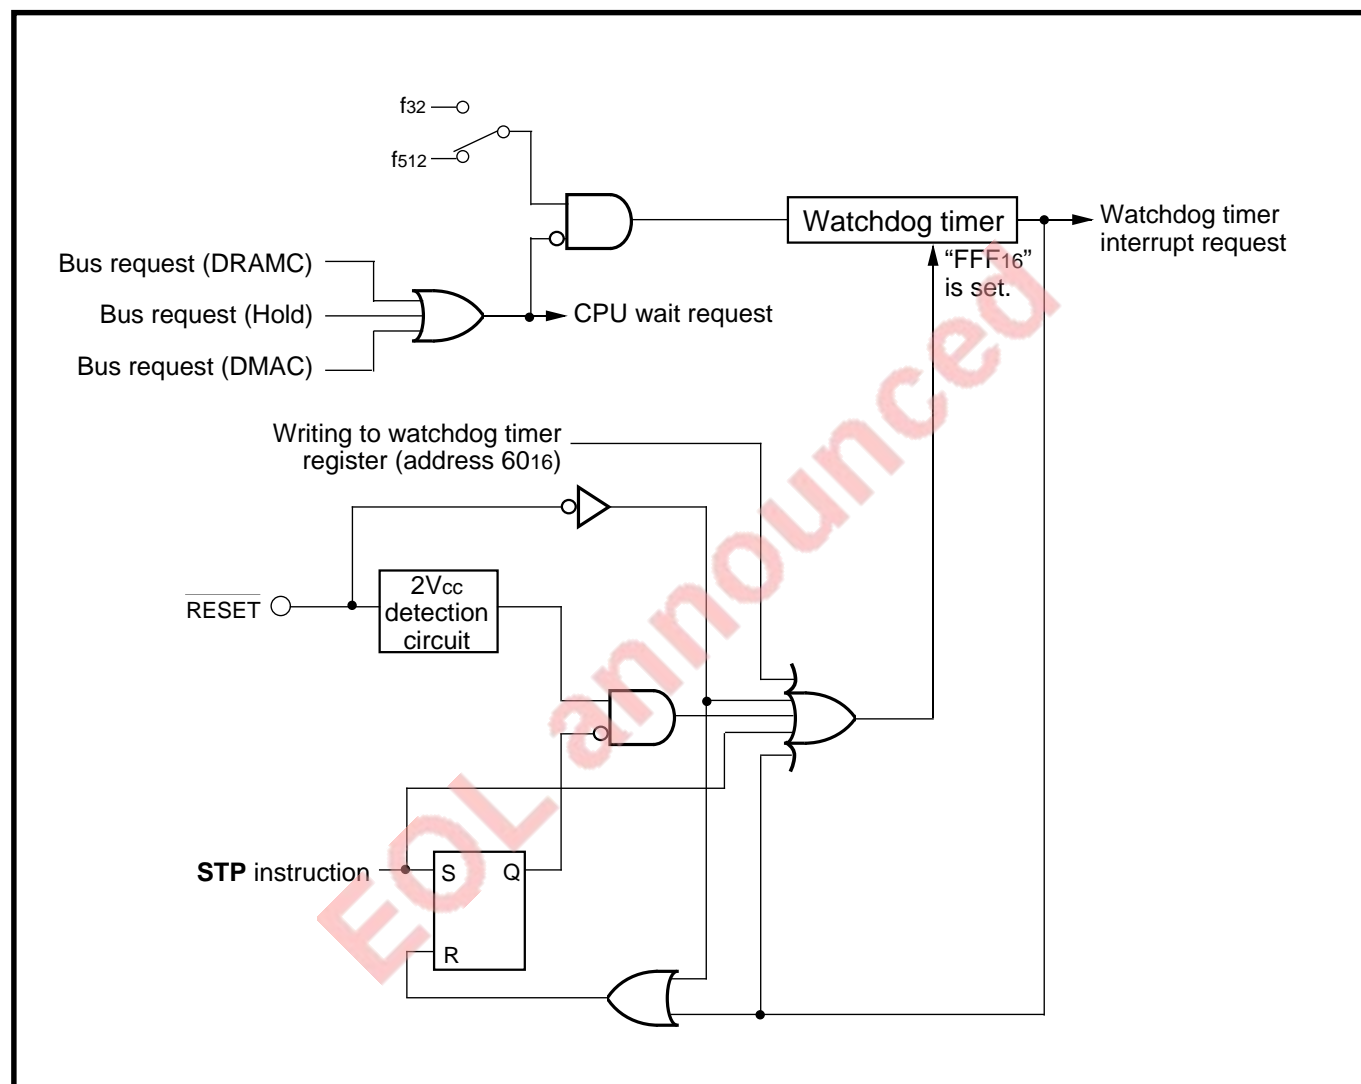
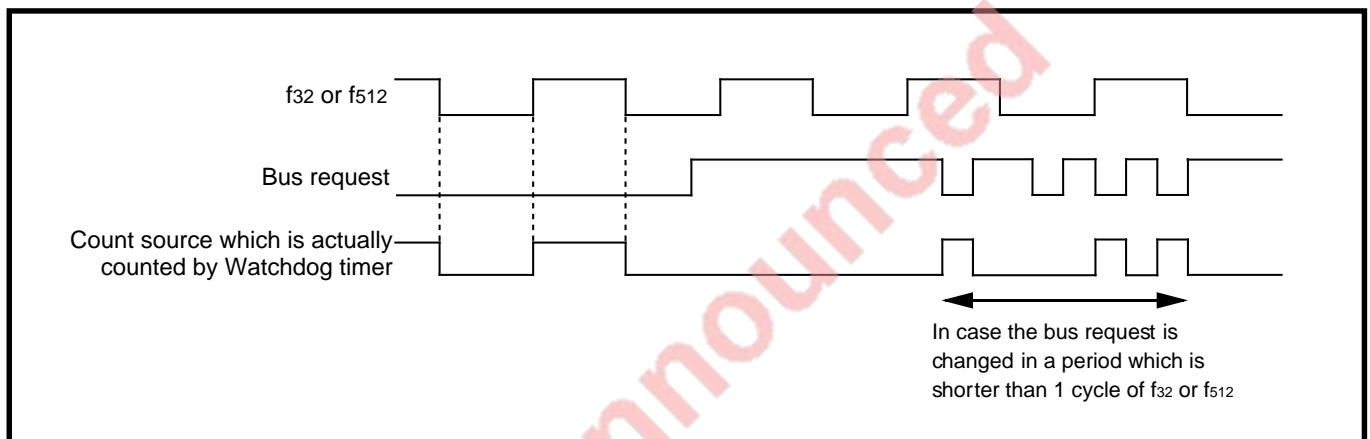

Fig. 15.1.1 Block diagram of Watchdog timer
Fig. 15.3.1 Count source for Watchdog timer
Figure 15.1.1 shows the block diagram of Watchdog timer.
3. Watchdog timer stops during DRAM refresh, hold state, and DMAC operation. (For Watchdog timer's structure, refer to “Figure 15.1.1.”) Accordingly, when a bus request is changed in the period which is shorter than 1 cycle of the count source (**Note**), Watchdog timer's count may gain. (Refer to “Figure 15.3.1.”)